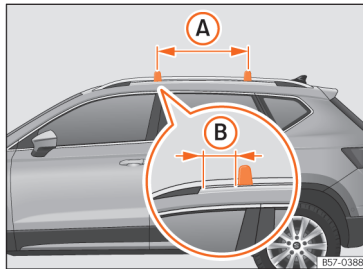

Fig. 182 Attachment points for the roof railings for the roof carrier
The crossbars are assembled on the roof railings. The distance between crossbars >>> Fig. 182 (A) should be between 70 and 90 cm and the distance between the crossbars and the brackets of the roof railings (B) must be 15 cm.